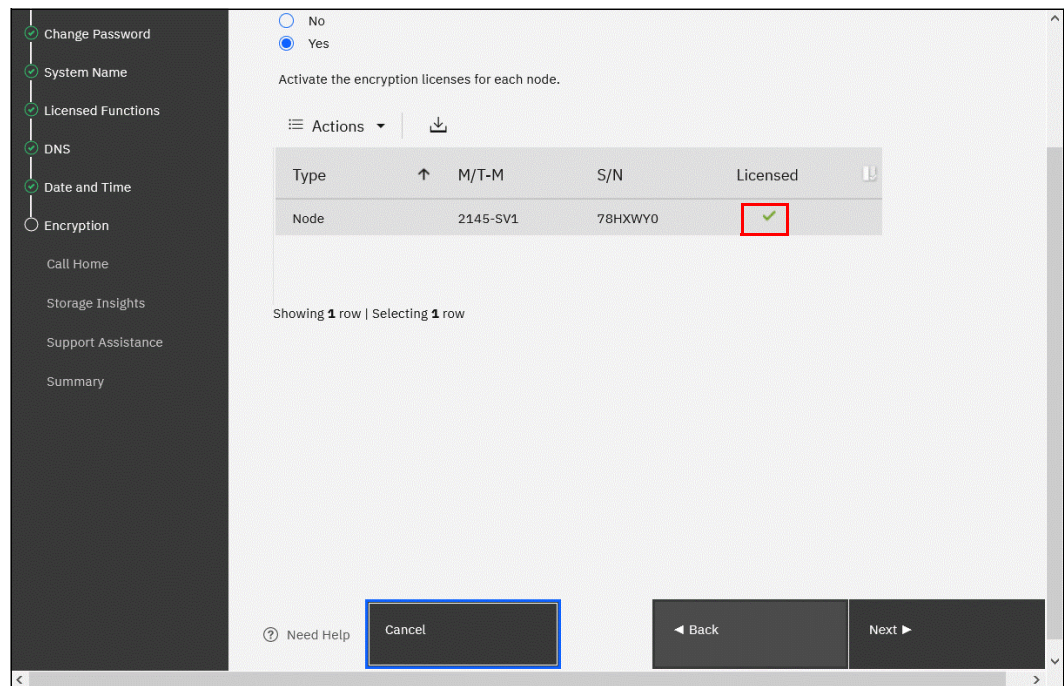

Figure 12-8 Successful encryption license activation during initial system setup
3. After either activation process is complete, a green check mark is shown in the column that is labeled “Licensed” next to a node for which the license was enabled. You can proceed with the initial system setup by clicking **Next** (see Figure 12-8).